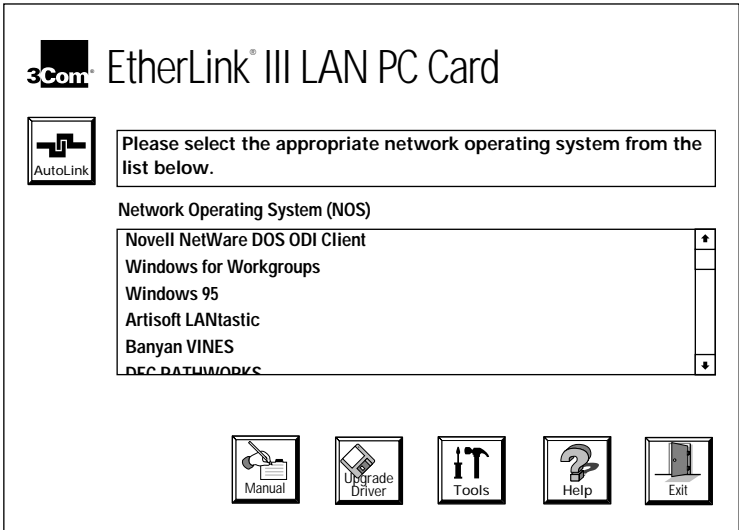

Figure 6-1 Main Screen
The main screen appears, as shown in Figure 6-1.
- 2 Click *Tools* on the main screen on both PCs, shown in Figure 6-1.**